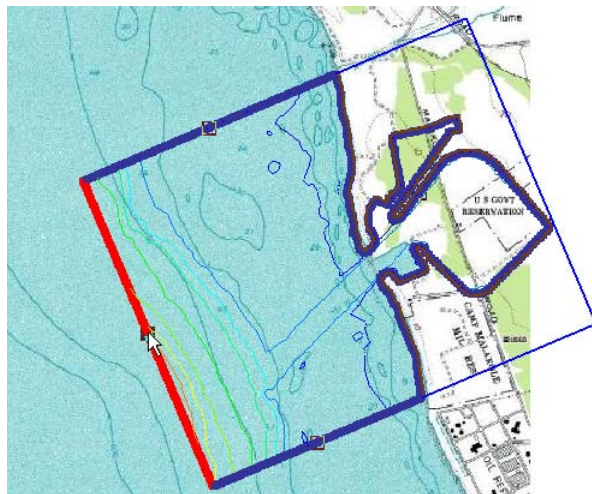

Figure 20-9. Wave maker cell string selected.
2. Select the cell string (in red) on the left side of the grid as shown in Figure 20-9.